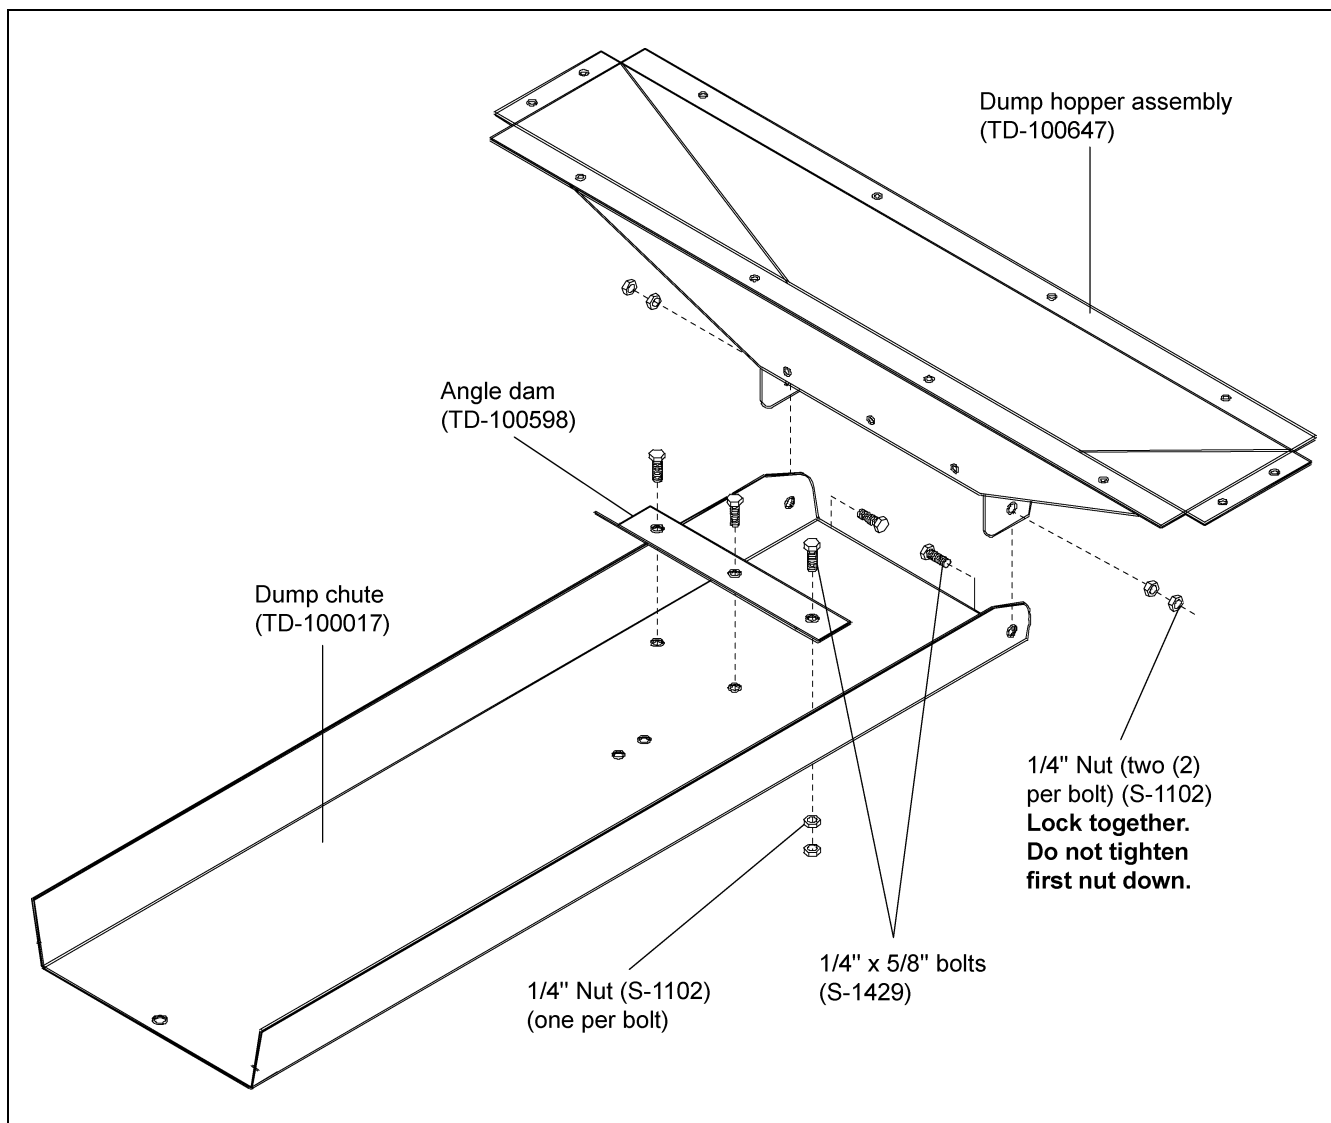

Figure 8N
Bolt an angle dam (TD-100598) to each dump chute using three (3) 1/4" x 5/8" bolts and nuts, as shown in Figure 8N. Use 1/4" x 5/8" bolts and double nuts to fasten dump chutes to hopper. **Do not tighten first nut down.** Lock second nut to first nut and **make sure chutes raise and lower FREELY**.